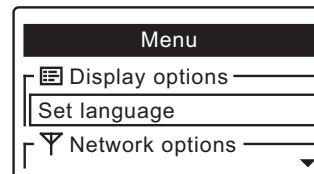

FIG. 45
6. If the remote does not already show a menu screen, press the remote's SELECT (O) button to display a **Menu** screen. (See Figure 45 on the next page).
1. If no device has been added to the remote, the menu shown in Figure 45 is displayed instead of status screens. In this case, skip to step 2. Otherwise, if status screens are shown, press the remote's SELECT (○) button to display a **Menu** screen (See Figure 45).